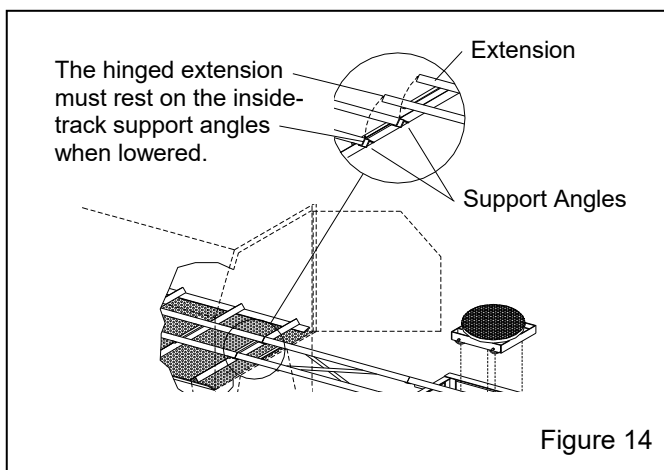

Figure 14
3.4.3 Position the track support table and extension as shown in Figure 14. When the hinged extension is lowered, the extension tracks must rest on the angled locating supports welded to the bottom of the inside tracks, and butt against the inside tracks.